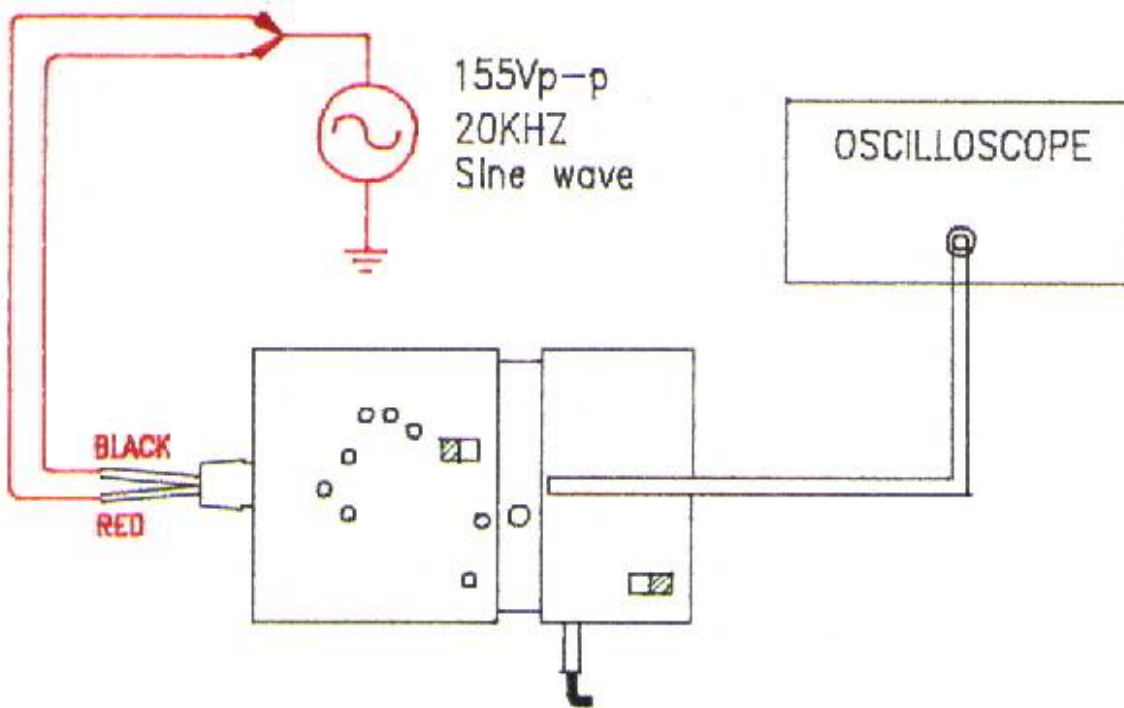

Fig. 12
- a. Referring to Fig. 12, connect output BNC to the oscilloscope has good grounding.